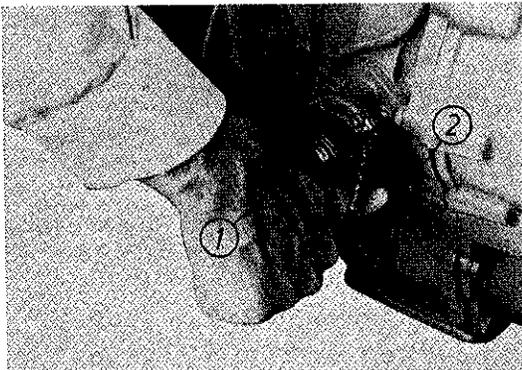

Fig. 8
- b. Pump by means of the priming lever of the fuel lift pump (fig. 8) until fuel flow is free from air bubbles. Retighten the slotted screw.